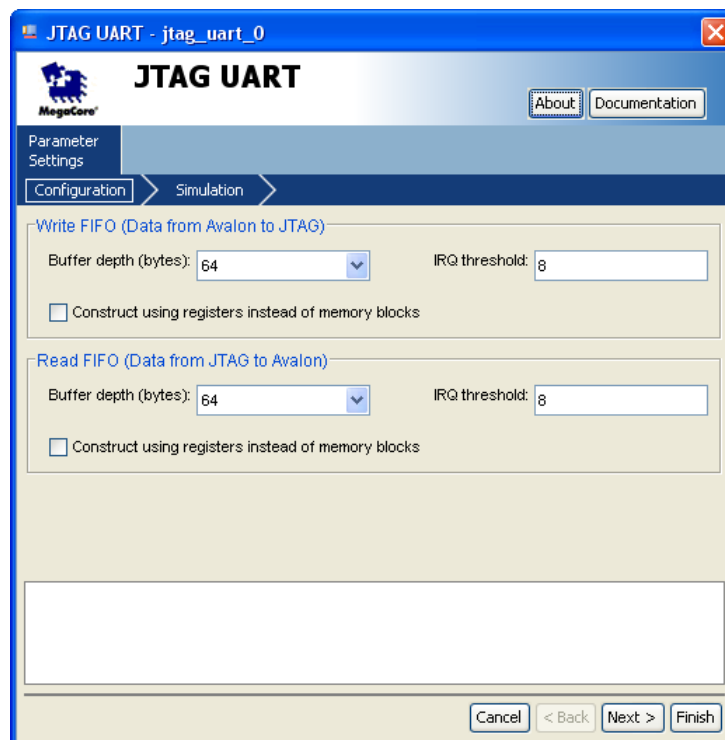

Figure 12. Define the JTAG UART interface.
- Select **Interface Protocols > Serial > JTAG UART** and click **Add** to reach the JTAG UART Configuration Wizard in Figure 12